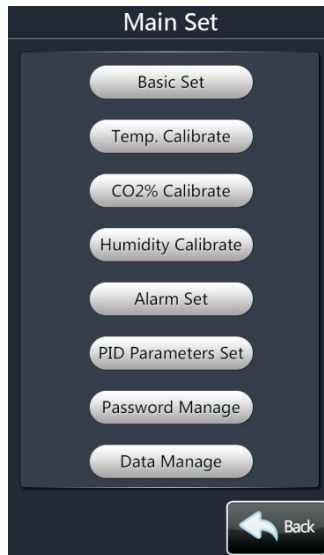

Figure 3: Main Set Interface
2. Click "Main Set" to enter the following interface, shown in Figure 3.
1. Click "Main set" to enter the interface shown in Figure 3 (page 20).
4. After setting, press "Save" and "back" or press "back" button to return to the instrument setting interface (Figure 3).
5. After setting the needed parameters and controls, click the "back" button under the "Main Set" page (Figure 3) to return the main interface to observe the running status of each function.